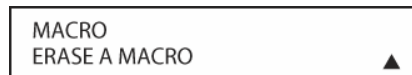

Figure 63
- At the next menu screen, press the **▼/▲ Navigation Button [oval 16]** until the bottom line in the remote's LCD display reads ERASE A MACRO. Press the **Set Button [oval 18]** to begin the process of erasing a macro. (**Figure 63**)